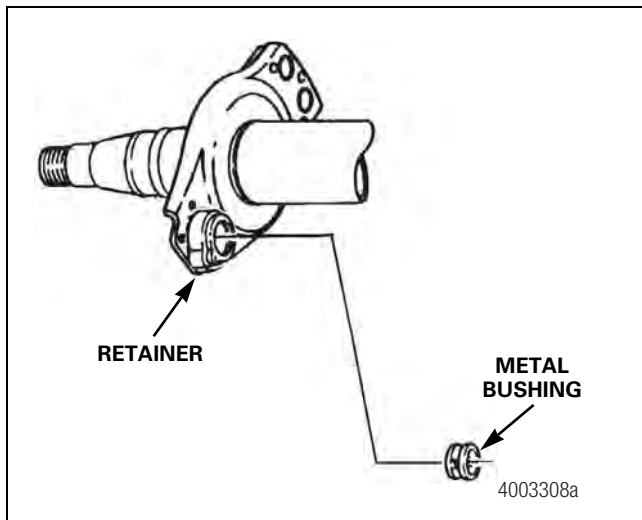

Figure 11.7
- A metal sleeve bushing can be installed onto all three spider models. Figure 11.7.